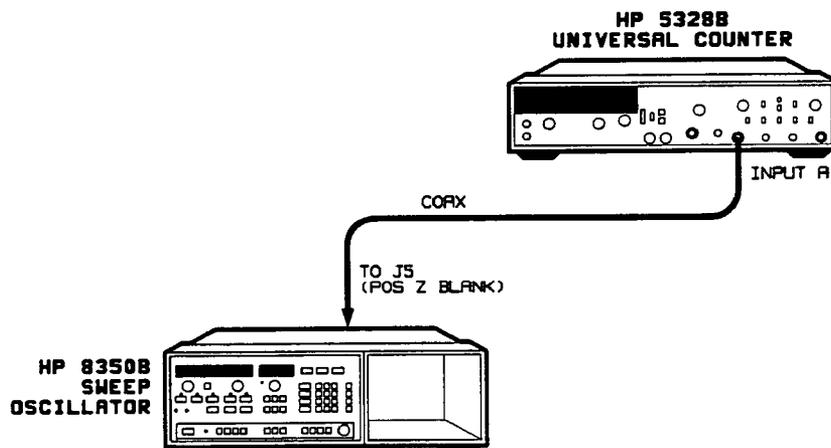

Figure 5-12. Sweep Retrace Time Adjustments Setup
4. Position the sweep oscillator upright as shown in Figure 5-12.